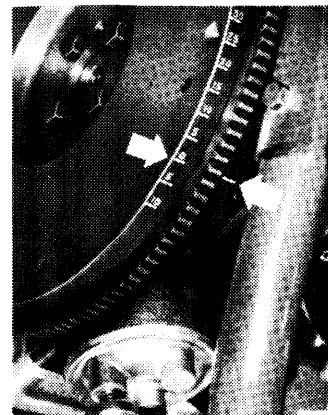

Fig. 3 Aligning "O" Degree Mark on Flywheel with Mark on Cylinder Block
5) Replace camshaft bearings and caps, then tighten cap nuts. Align camshaft timing mark with mark on cylinder head as shown in Fig. 3.